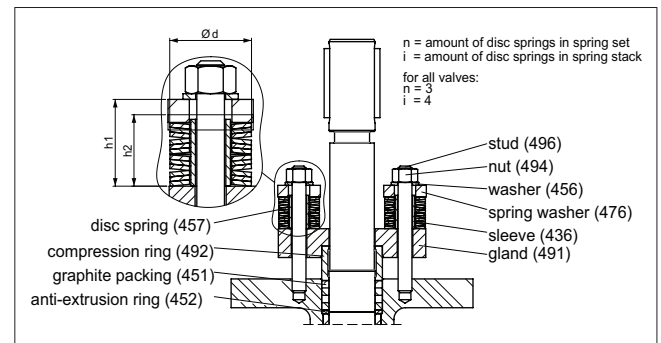

Fig. 34 Gland packing
- Unfasten the nuts (494) and remove the washer (456), the spring washer (476), the disc springs (457), the sleeve (436), the gland (491) and the compression ring (492).
- Remove old packing rings (451). Do not damage the surface of the packing ring counterbore and shaft. It is not necessary to change the anti-extrusion ring (452).
- Mount the disc springs according to Figure 34.